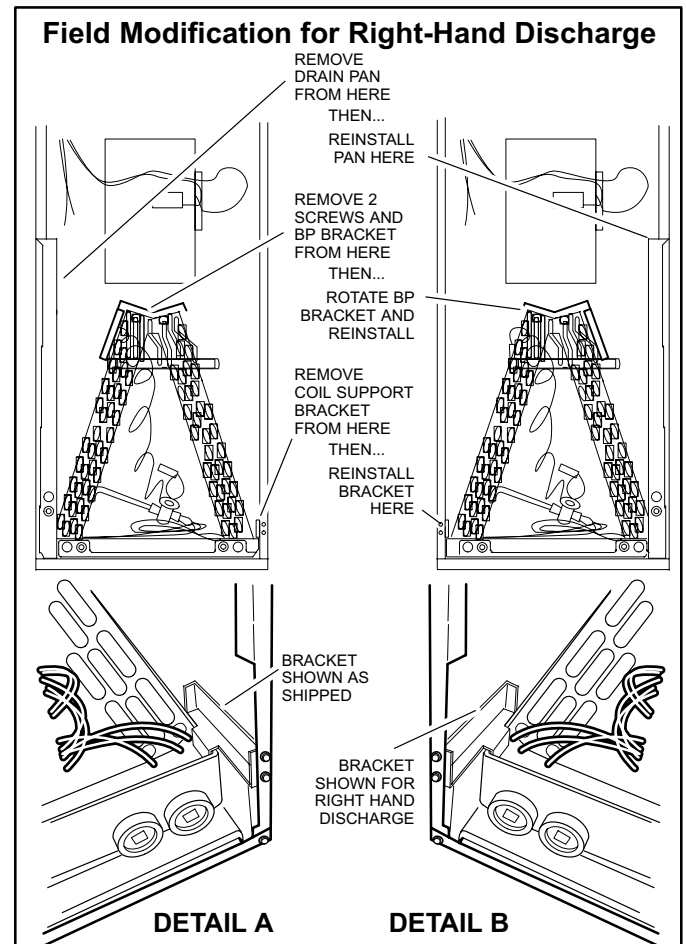

FIGURE 10
2. Remove the coil support bracket (see detail A, figure 10).
5. Remove two screws and blowoff prevention bracket ("BP BRACKET" in figure 10). Rotate the bracket 180° and reinstall using the same screws.
8. Install the coil support bracket on the opposite side of the air handler (detail B, figure 10)..